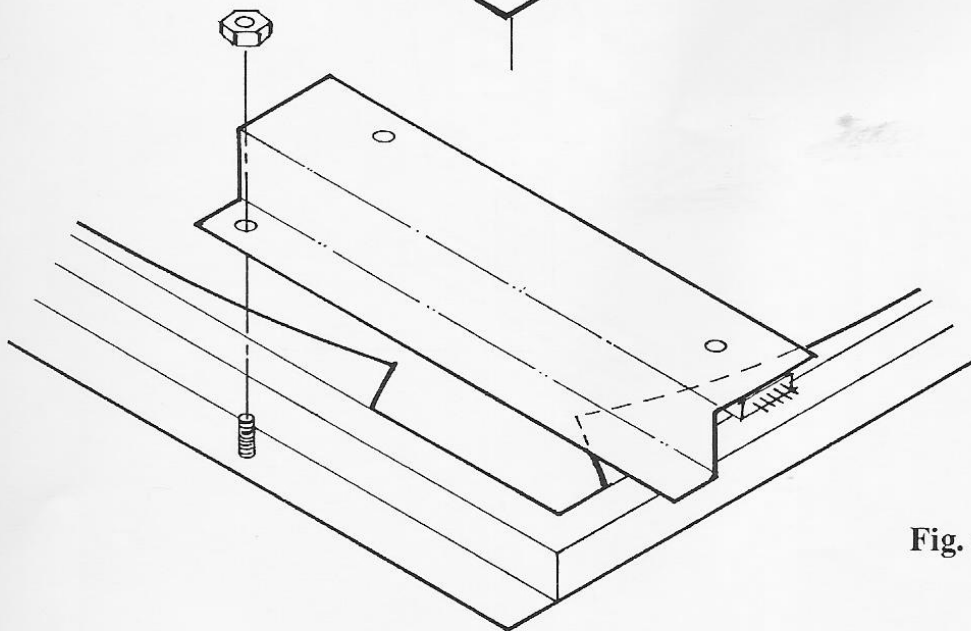

Fig. 4
- C. Mount the LED board assembly to the corner of the metal monitor bezel and attach it into place using the 9/32" hex nut and driver (see Figure 4).